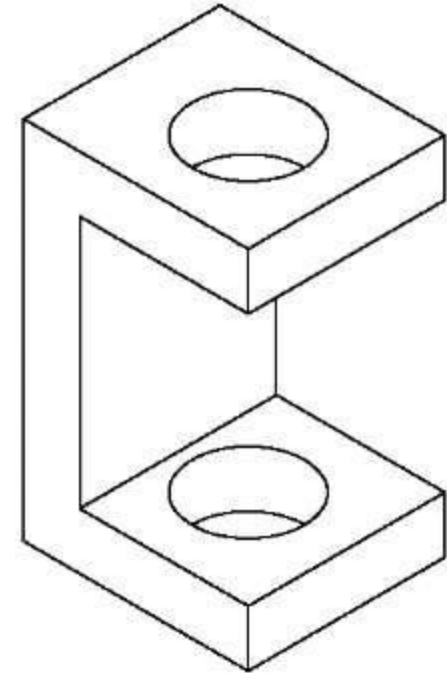

Fig PF-4-1-19 – Isometric View
- **Isometric drawings** show three sides of an object, all in dimensional proportion, but none are shown as a true shape with 90° degree corners. All the vertical lines are drawn vertically but all horizontal lines are drawn at 30 degrees to the base line, see **Fig. PF-4-1-19** for example.